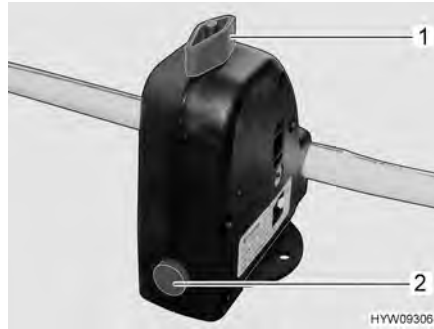

Fig. 77 Safety/drainage valve (boiler)
The boiler is equipped with a safety/drainage valve (Fig. 77). The safety/drainage valve prevents water in the boiler from freezing, when there is frost and the heater is not switched on.
- Close the safety/drainage valve. Turn the knob (Fig. 77,1) perpendicular to the safety/drainage valve and push the push button (Fig. 77,2) in.
- Open the safety/drainage valve. To do this turn the knob (Fig. 77,1) parallel to the safety/drainage valve. The push button (Fig. 77,2) jumps out. The boiler is drained to the outside by the safety/drainage valve.